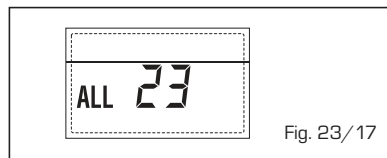

Fig. 23/17
- ANOMALÍA Sonda DEL COLECTOR SOLAR (S1) "ALL 24" (fig. 23/18)